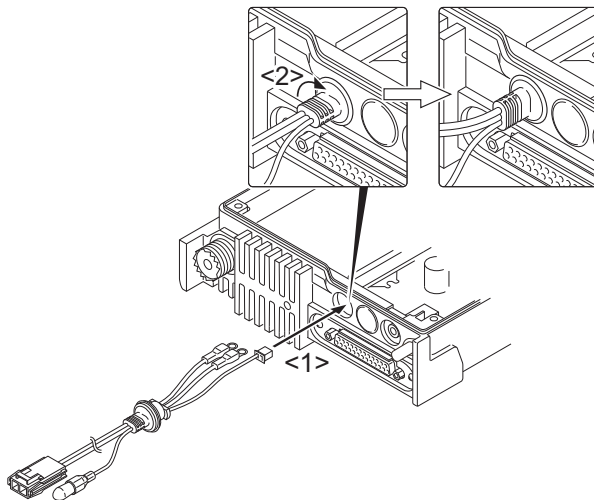

Fig.4-1
- (1) Pass the power supply cable through the chassis hole <1> as shown in Figure 4-1 and insert the bush into the chassis hole.
- (2) Rotate the bush of the power supply cable 90 degrees clockwise as viewed from the rear of the chassis. <2>
- (3) Align the ignition sense connector (yellow) of the power supply cable around the chemical capacitor (C401) and connect it to the Main unit (A/2) connector.